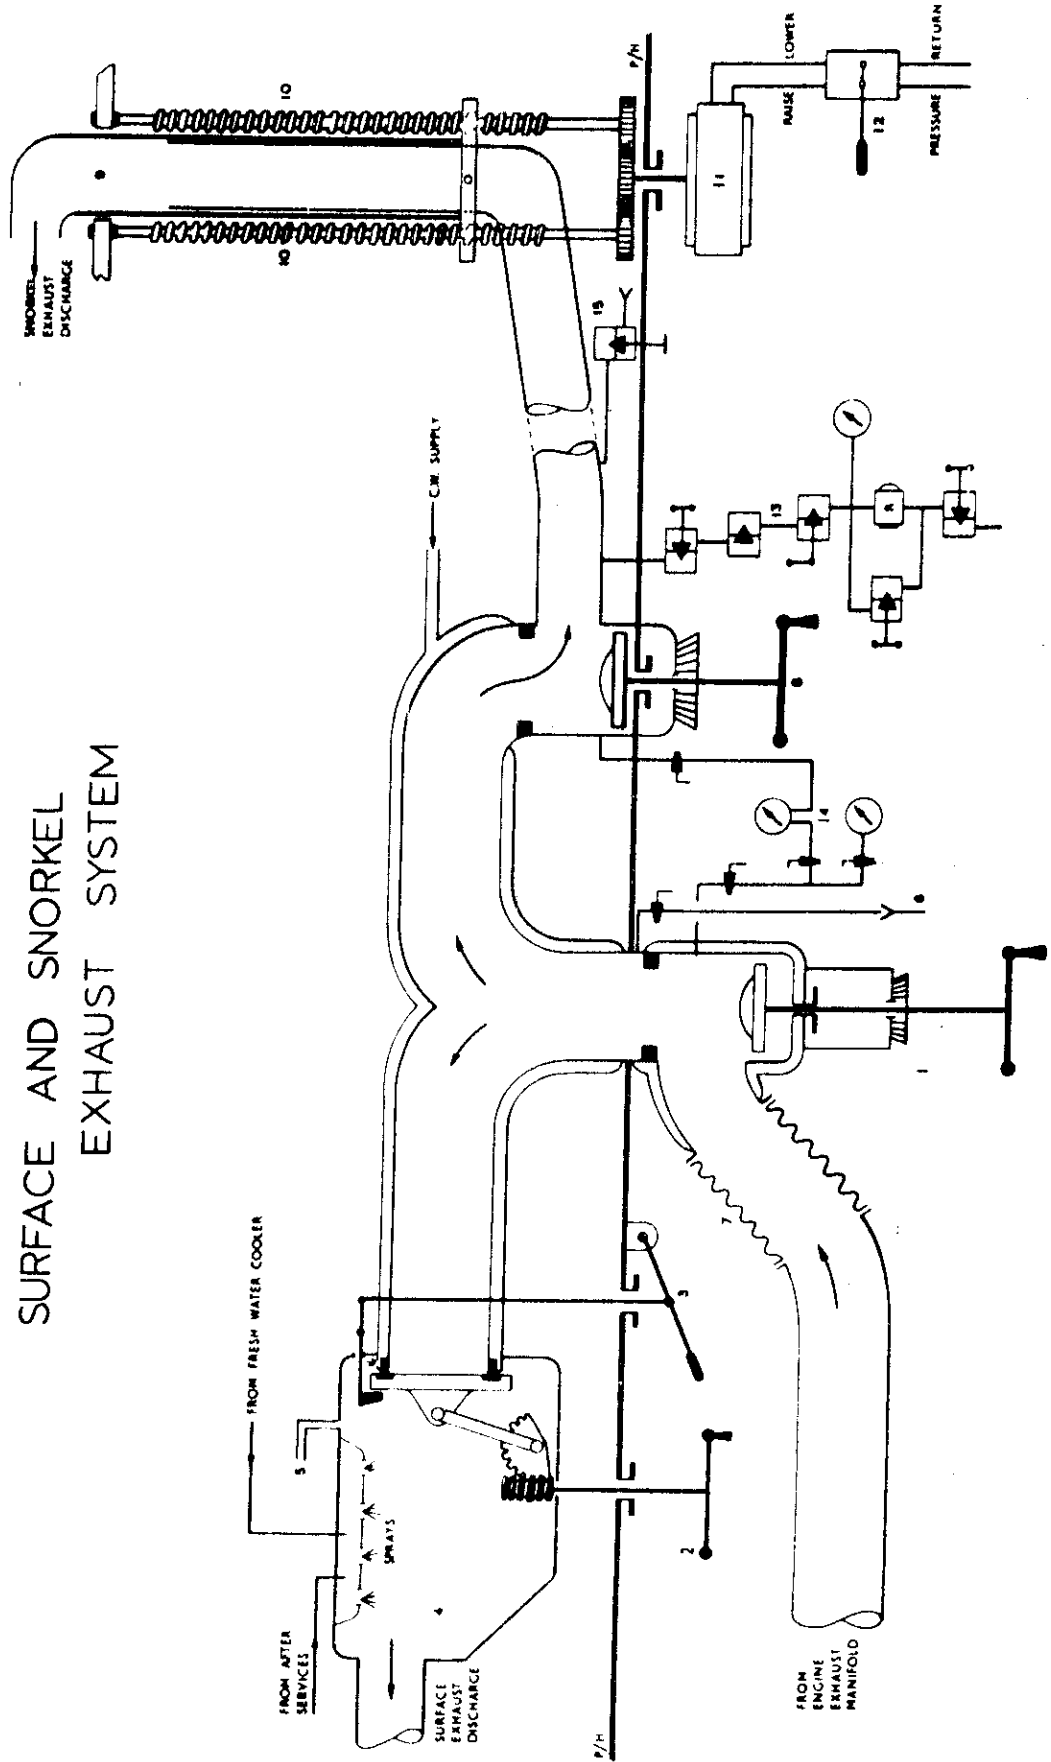

Fig 7
8.07 SNORKEL EXHAUST SYSTEM (Figure 7)
8.09 DESCRIPTION (Figure 7)